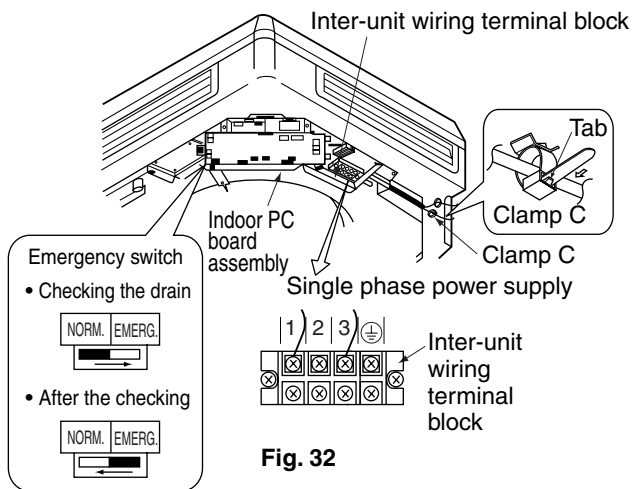

Fig. 32
- Remove the control box lid and change the emergency switch above the PC board assembly of the indoor unit from "NORM." to "EMERG.". Connect the single-phase power supply (1, 3) and ground wire to the inter-unit wiring (50Hz 220-240V) terminal block and confirm drain operation. Be sure to change the switch before turning on the power. (Refer to Fig. 32)